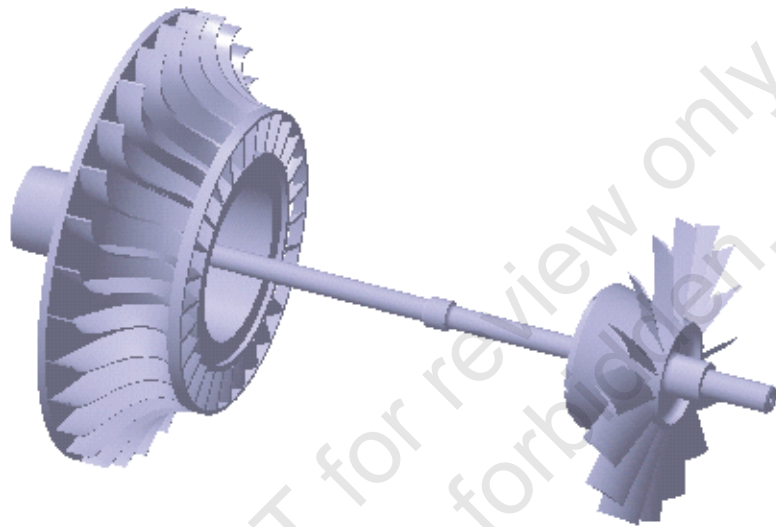

Figure 1–50
4. Constrain the axes of **TieBolt** and **Impeller** and update the assembly. The assembly displays, as shown in Figure 1–50.